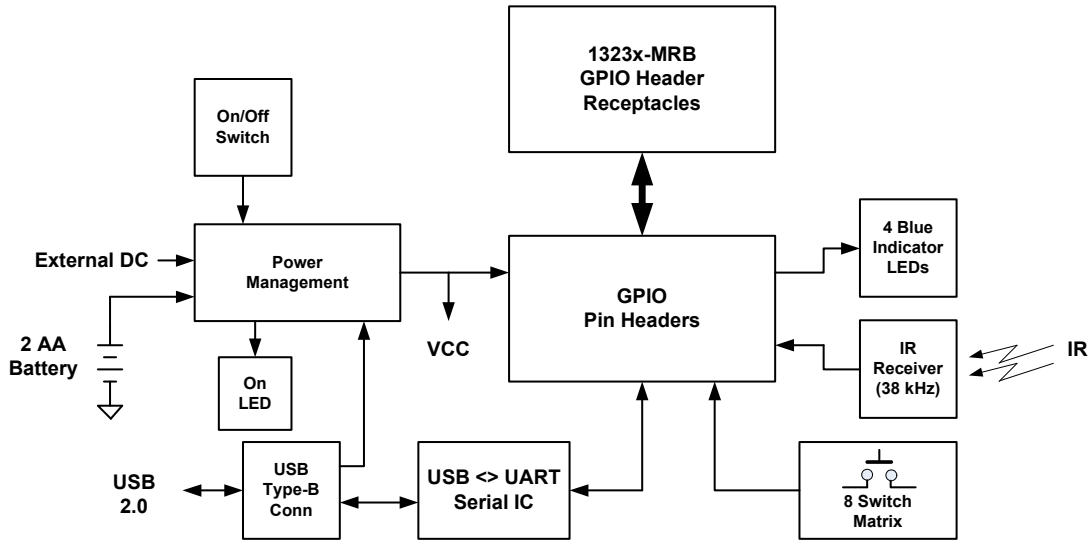

Figure 5-2. 1323x-REM Block Diagram
The 1323x-REM is a simple host motherboard for the 1323x-MRB. The two-board combination provides a simple evaluation and development platform for the MC13233. Figure 5-2 shows a simple block diagram. The 2-layer board provides a flexible power supply, eight pushbutton matrix, four indicator LEDs, IR receiver, and a USB  $\leftrightarrow$  UART serial port.
- Figure 5-2 for the functional blocks